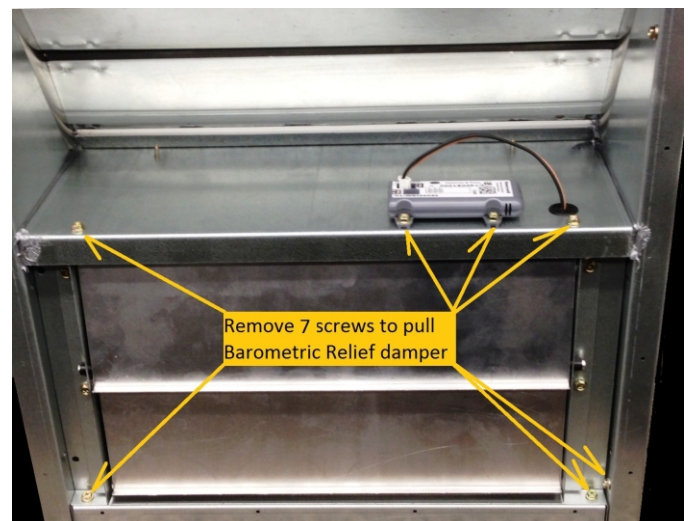

Figure 3: Remove Barometric Relief Damper
3. Remove seven screws holding barometric dampers (see figure 3) and remove for access to the mounting location.